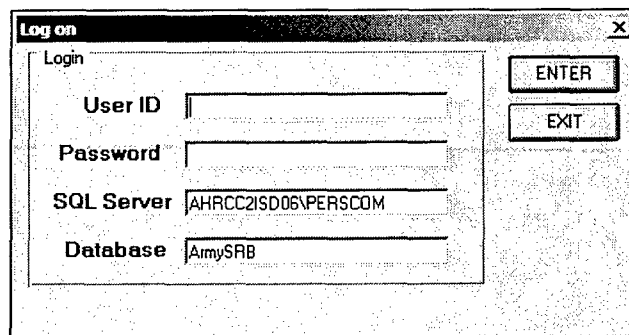

Figure 1. Login Screen
2. At the login screen shown in Figure 1, enter a valid User ID and Password. The SQL Server box should contain the string "AHRCC21SD06\PERSCOM" and the Database box should contain "ArmySRB."